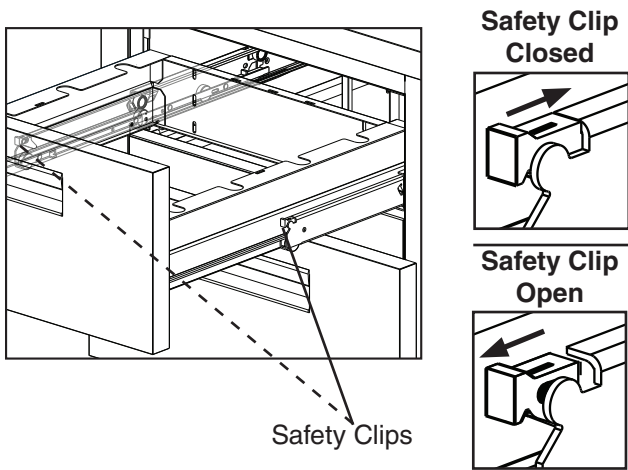

Fig. 3
- **To remove a drawer:** Remove all items from the drawer. Pull the drawer out to its fully extended position. Open the safety clips (one on each side) by sliding them forward. See Fig. 3. Lift up on the handle slightly, then pull to disengage the drawer. Be sure to support the rear and front of the drawer while removing it. **WARNING! Be sure to close the safety clips when reinstalling the drawer.**